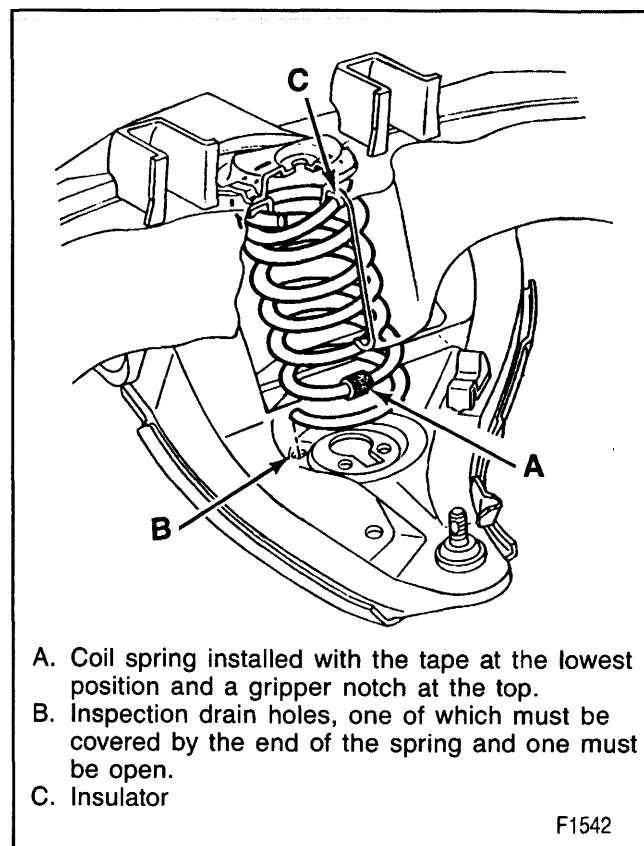

Figure 24—Positioning the Coil Spring
1. Coil spring (37) and the insulator (73) on the lower control arm (40) (figure 24).